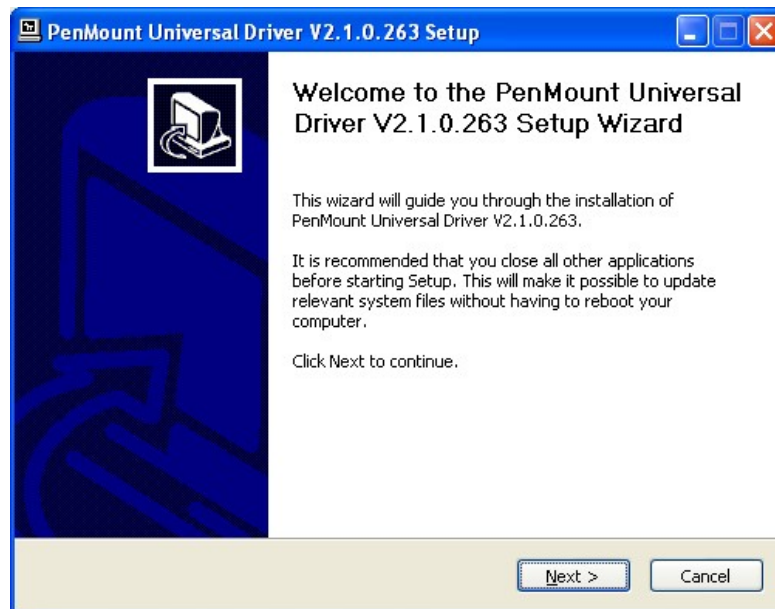

Figure 6-21: Touch Screen Driver Welcome Screen
Step 4: A **Welcome Screen** appears (**Figure 6-21**).